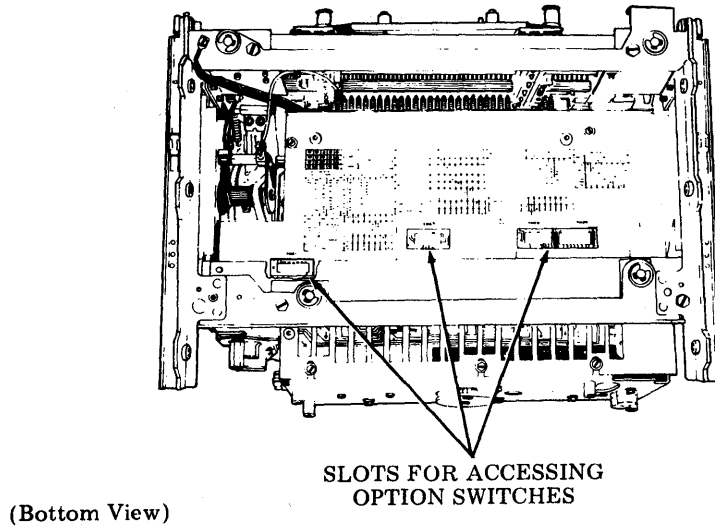

Fig. 11—Forms Access Printer (80-Column)
5.09 It is not necessary to remove the 410071 circuit card from the printer in order to option it. Option switches on the card are accessible through openings in the bottom plate of the printer (Fig. 11 and 12).